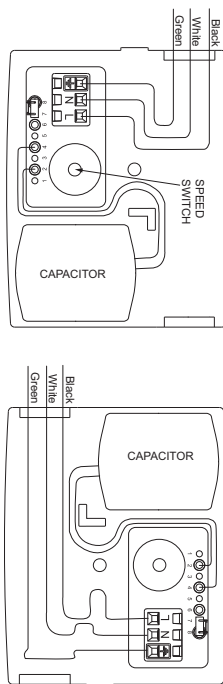

Fig. 3 Examples of ground and power supply connections (115V and 108-230 V) with internal drip loop
- See fig. 3 for proper grounding and supply power connection locations (115V and 208-230V).
- Where an external "Drip Loop" is not possible, or if the wiring enters through the upward facing (top) surface of the box, then an internal "Drip Loop" is recommended; see fig. 3.